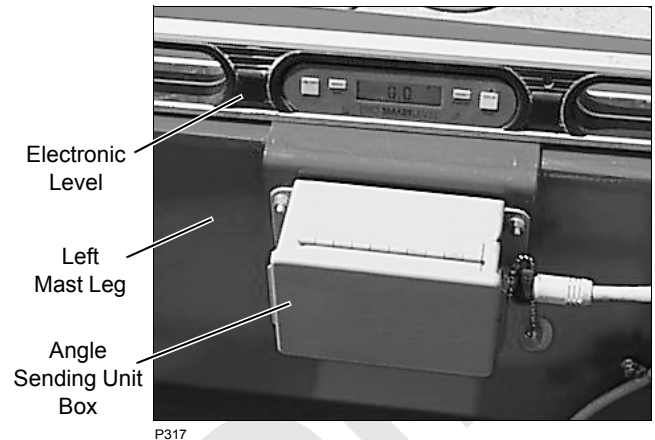
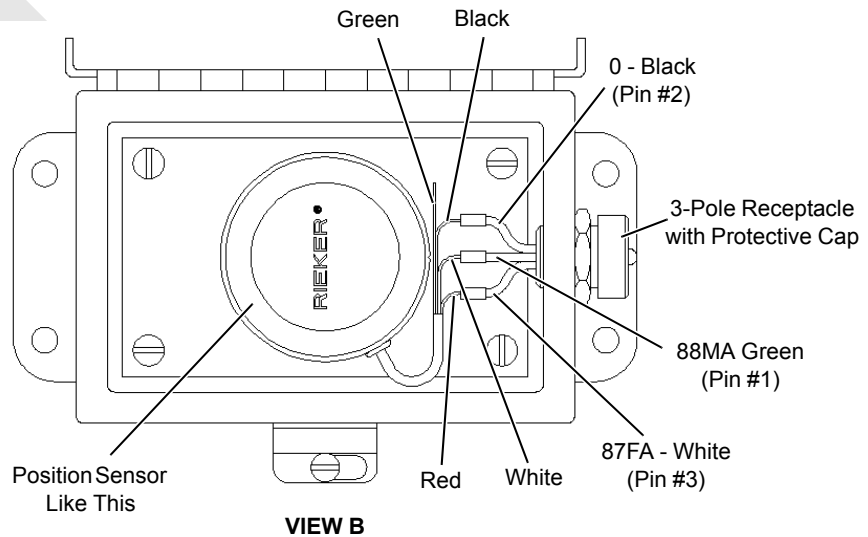

FIGURE 4-6
FIGURE 4-7
The mast angle sending unit (Figure 4-6) houses a pendulum-type 120° potentiometer (Figure 4-7) which provides a digital electronic input to the crane's programmable controller. The programmable controller uses the signal for the following purposes:
3. Place an electronic level on mast (Figure 4-6)
When replacing parts in the pendulum-type potentiometer sending unit, take the following precautions (see Figure 4-7, View A):
When replacing existing pendulum-type potentiometer with current production solid state sensor, take the following precautions (see Figure 4-7, View B):